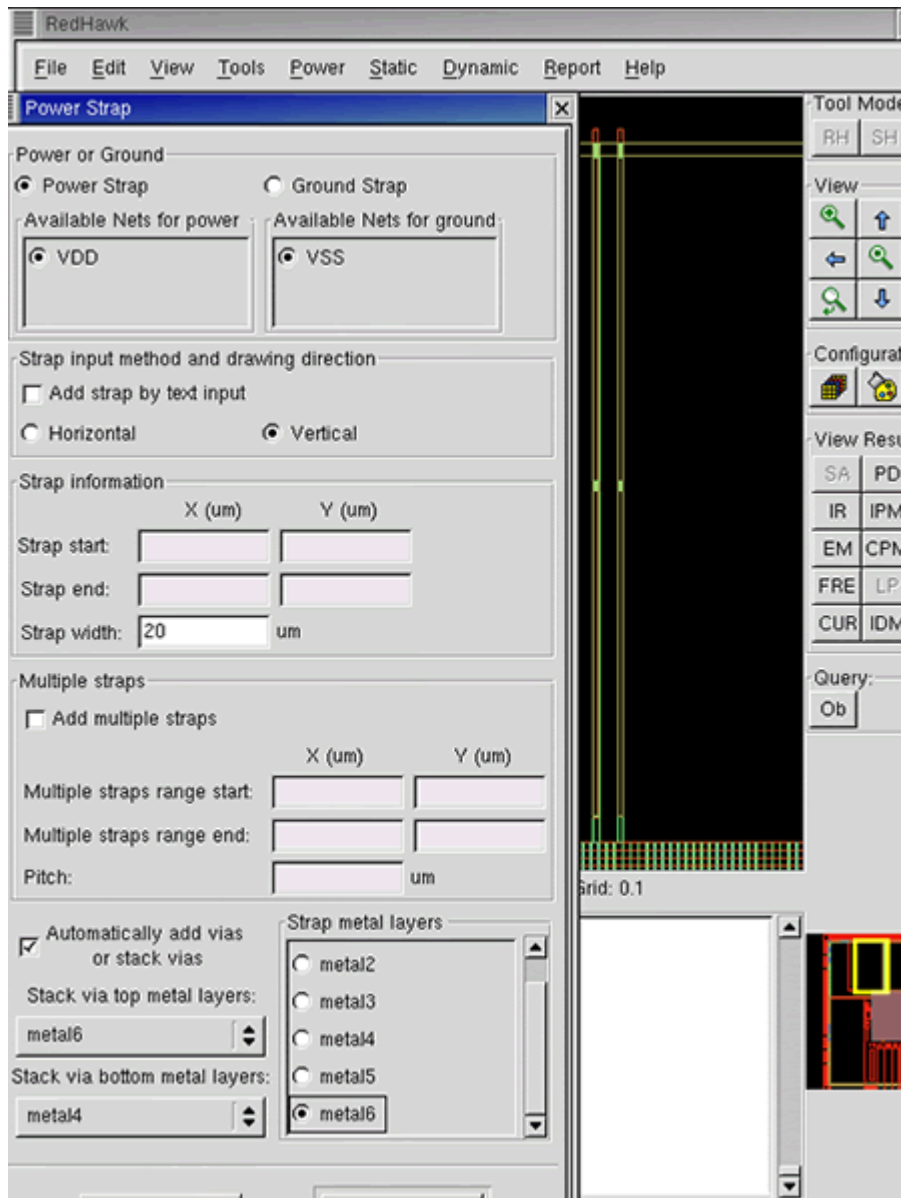

Figure 4-18 Adding two metal6 power straps to two existing metal4 power straps
3. Add two metal6 straps on top of the two metal4 straps by using **Edit > Add Power Strap**, as shown in Figure 4-18. This reduces the resistance of the grid segment supplying the hotspot. Make the following selections in the pop-up menu when adding the metal6 straps.